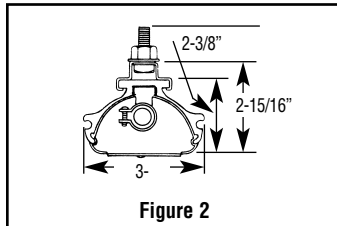
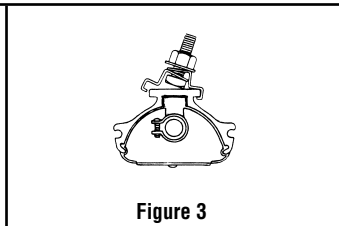

Figure 2
Figure 3
2. Clamps — Heaters are mounted by means of the mounting clamp and 3/8" bolt assembly which is used as shown in Fig. 2. Clamp assembly may be attached to heater by sliding over end or by snapping over top of extruded frame section at any point along its length (see Fig. 3). For proper heater support, the maximum distance between clamps must not exceed 48". On extra-long heaters, more than two clamps are furnished.